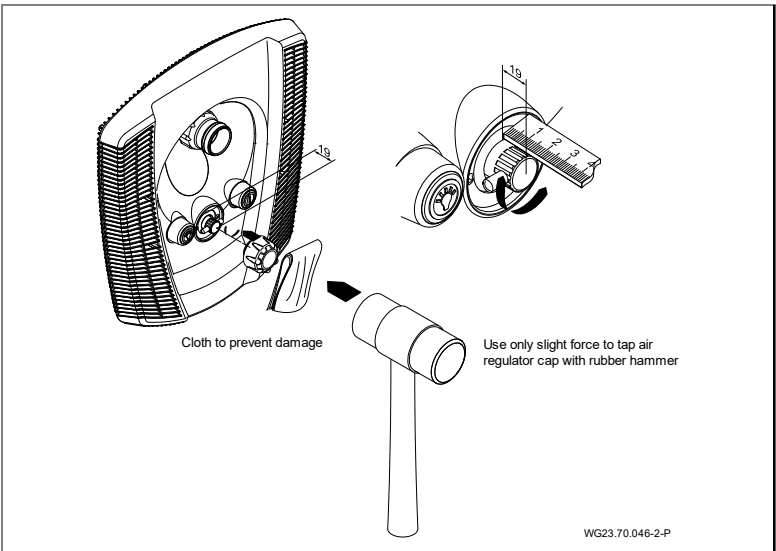

Fig. 19
8. Secure the cover for the air regulator. (Fig. 19)
9. Connect the jet pump (92) to the main housing (1) on the suction and pressure sides using the half screw (98, 99, 100), the rubber bracket (79) and the corresponding clamps (75).